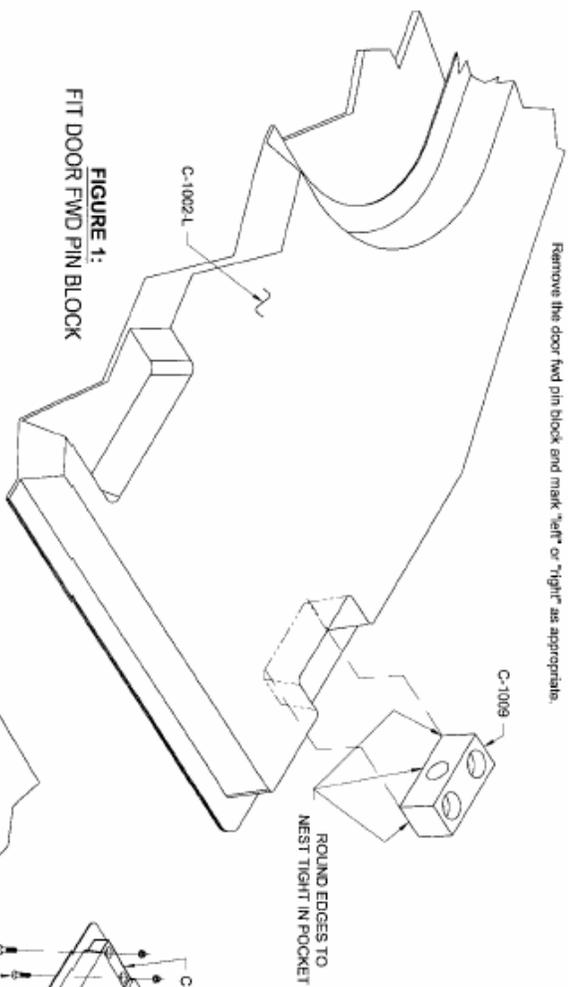

FIGURE 1:
Step 1: Position the C-1009 Door Fwd Pin Block in the pocket in the C-1002-L Door as shown in Figures 1 and 3. Round the upper, aft, and lower outboard edges as required for the door fwd pin block to nest tightly against the door.